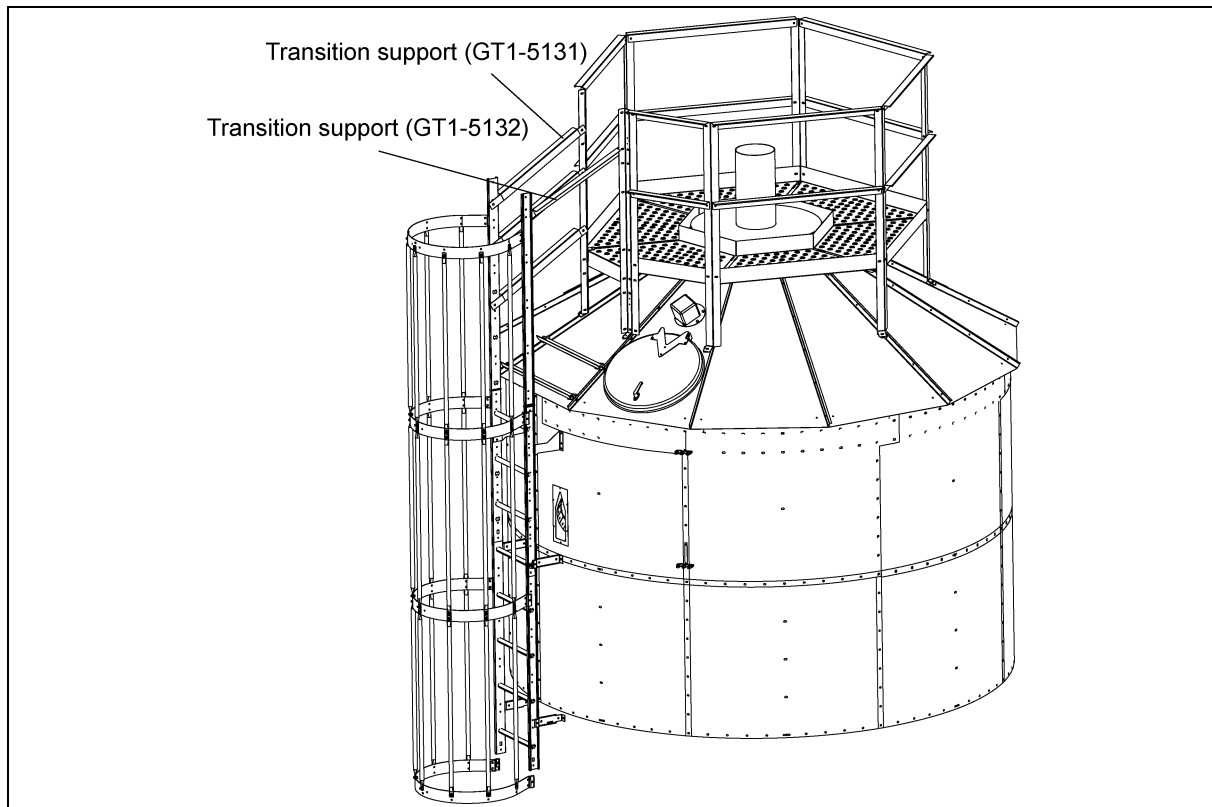

Figure 3N
2. Install the Peak Walk Around Assembly on the roof such a way, the entry would align with the ladder. (See *Figure 3N*.) Assemble transition supports (GT1-5131 and GT1-5132) using 5/16" hardware as shown in *Figure 3N*.